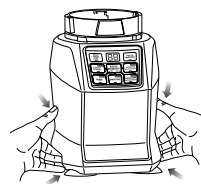

Fig. 9
- 18 To release the motor base from the counter or table top, place your hands underneath both sides of the motor base and gently pull the unit up and towards you. (Fig. 9)